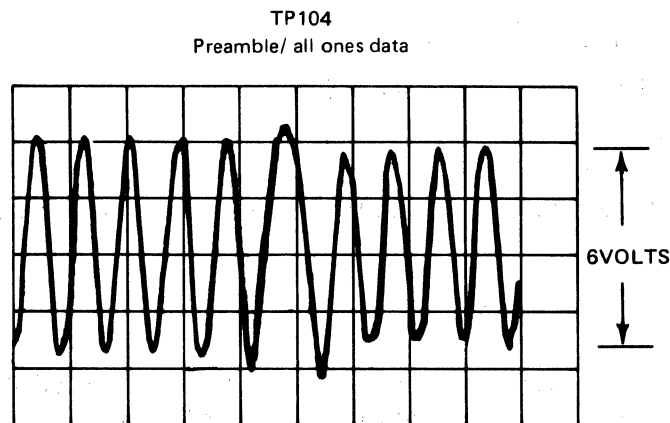

Figure 5-7. Amplifier Waveform (TP104)
- h. Adjust potentiometer R112 until the analog signal displayed on the oscilloscope is 6 volts peak-to-peak. (Refer to figure 5-7.)